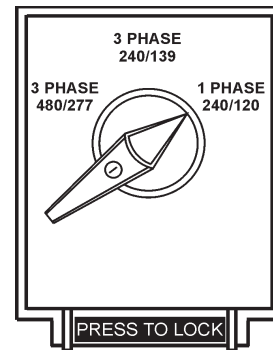

**Figure 26. Voltage Selector Switch
1. Place the voltage selector switch in the 1Ø 240/120 position as shown in Figure 26.